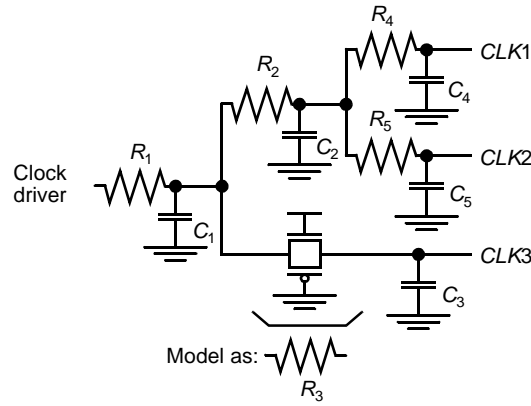

Figure 0.2 RC clock-distribution network.
2. [C, SPICE, 4.x] You are designing a clock distribution network in which it is critical to minimize skew between local clocks ($CLK1$, $CLK2$, and $CLK3$). You have extracted the RC network of Figure 0.2, which models the routing parasitics of your clock line. Initially, you notice that the path to $CLK3$ is shorter than to $CLK1$ or $CLK2$. In order to compensate for this imbalance, you insert a transmission gate in the path of $CLK3$ to eliminate the skew.